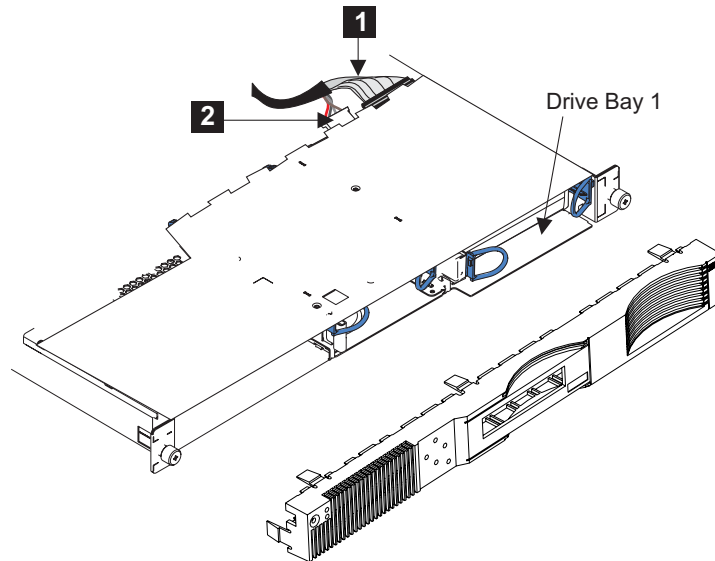

Figure 85. Replacing the SAN Volume Controller 2145-4F2 disk drive cables
1. Connect the SCSI signal connector **1** and the power connector **2** to the back of the disk drive, then replace the cable. See Figure 85 on page 255.